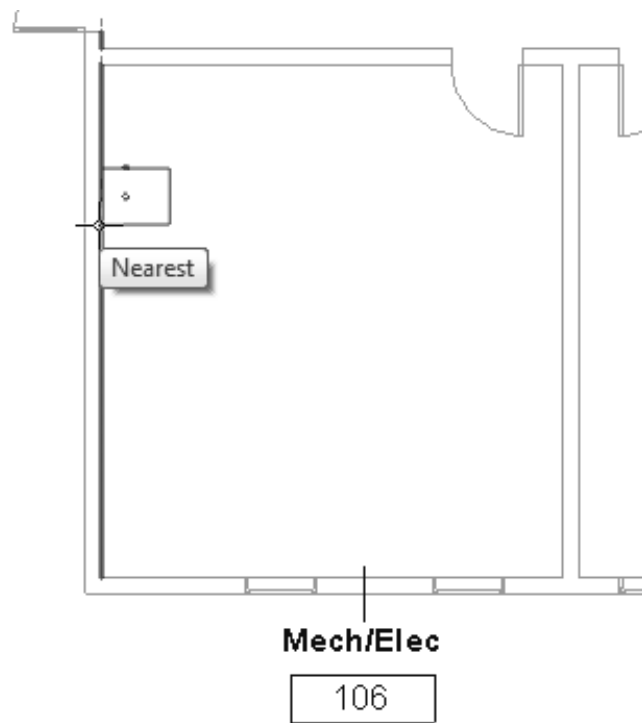

Figure 2–27
12. In the Mech/Elec room, move the cursor near the exterior wall. Note that the interior side of the wall highlights, as shown in Figure 2–27. Press <Spacebar> and the boiler will rotate around the placement point, which is your cursor.